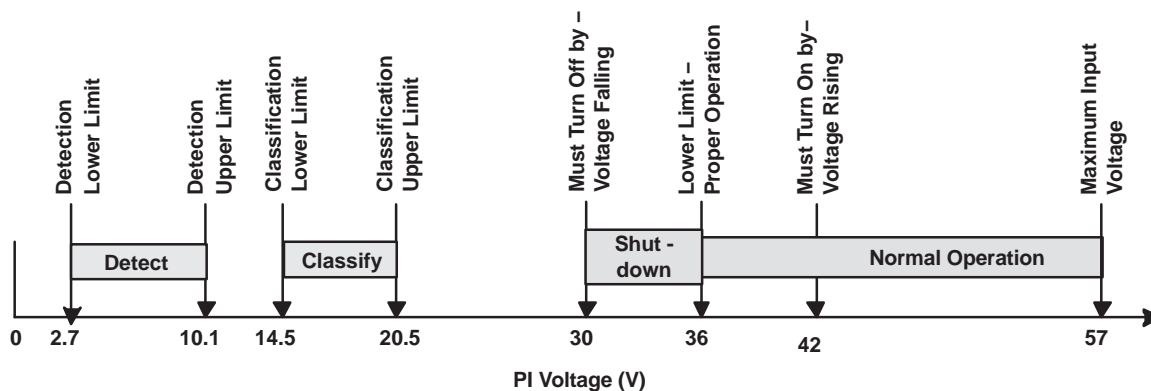
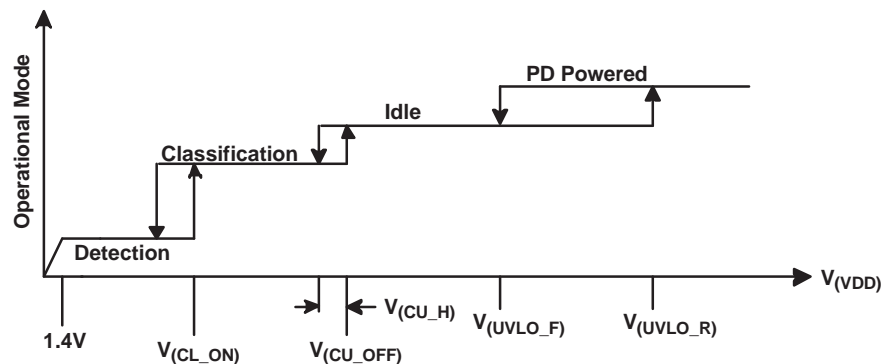

Figure 12. IEEE 802.3 PD Voltage Limits
Figure 13. Threshold Voltages
The IEEE 802.3af specification defines a process for safely providing power over an ethernet cable when a capable device is connected, and then removing power if it is disconnected. The process proceeds through three operational states: detection, classification, and operation. An unterminated cable is not powered. The PSE periodically probes the cable with low voltage, looking for a 25 kΩ signature; this is referred to as detection. The low power levels used during detection are unlikely to cause damage to devices not designed for PoE. If a valid powered device (PD) signature is present during detection, then the PSE may optionally inquire about the amount of power the PD requires; this is referred to as classification. The PD may return a default full-power signature, or one of four other defined choices. In a high-power system, class may not be required, or the levels may be redefined to suit that particular system. The PSE may use the class power to determine if it has adequate power to operate this device, and later to determine if a device is using more power than it requested. At this point in the process, the PSE may choose to power the PD. The PSE output is protected against shorts and overloads when the PD is powered. The maintain power signature (MPS) is presented by the powered PD to assure the PSE that it is present. The MPS is either a minimum dc current, a maximum ac impedance, or both. When the MPS disappears, the PSE removes power and returns to its initial state. Figure 12 shows the operational states as a function of PD input voltage range as defined in IEEE 802.3af.
In order to implement the defined PoE functions shown in Figure 12, the TPS2376-H has a number of internal comparators with hysteresis for stable switching between the various states. Figure 13 relates the parameters in the Electrical Characteristics section to the PoE states. The mode labeled *idle* between classification and PD powered implies that the DET, CLASS, PG, and RTN pins are all high impedance.
The classification process applies a voltage between 14.5 V and 20.5 V, for a maximum of 75 ms, to the input of the PD, which in turn draws a fixed current set by  $R_{(CLASS)}$ . An 802.3af PSE measures the PD current to determine which of the five available classes (Table 1) that the PD is signaling. The total current drawn from the PSE during classification is the sum of bias currents and current through  $R_{(CLASS)}$ . The TPS2376-H disconnects  $R_{(CLASS)}$  at voltages above the classification range to avoid excessive power dissipation (Figure 12 and Figure 13).
The TPS2376-H incorporates an undervoltage lockout (UVLO) circuit that monitors line voltage to determine when to apply power to the downstream load and allow the PD to power up. The IEEE 802.3af specification dictates a maximum PD turn on voltage of 42 V and a minimum turn-off voltage of 30 V (Figure 13). The UVLO pin provides the flexibility to adjust the turn on and turn off to the IEEE 802.3af limits, or a custom set. Design the turn-on for 39.5 V if a design which uses the IEEE 802.3af limits is desired.